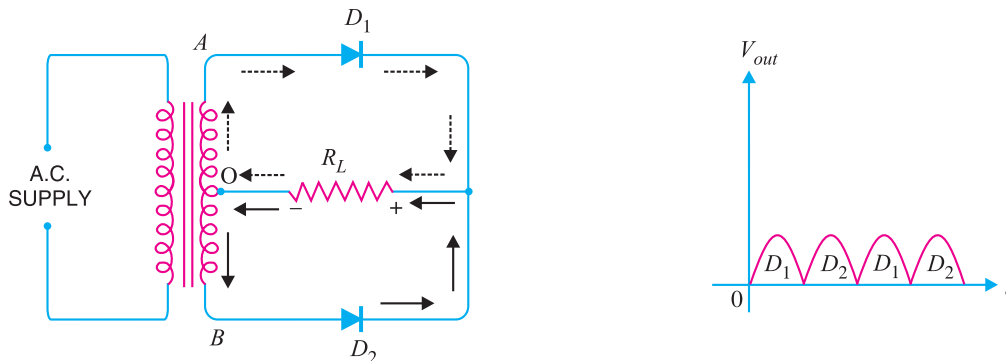

Fig. 6.24
The circuit employs two diodes  $D_1$  and  $D_2$  as shown in Fig. 6.24. A centre tapped secondary winding  $AB$  is used with two diodes connected so that each uses one half-cycle of input a.c. voltage. In other words, diode  $D_1$  utilises the a.c. voltage appearing across the upper half ( $OA$ ) of secondary winding for rectification while diode  $D_2$  uses the lower half winding  $OB$ .
**Operation.** During the positive half-cycle of secondary voltage, the end  $A$  of the secondary winding becomes positive and end  $B$  negative. This makes the diode  $D_1$  forward biased and diode  $D_2$  reverse biased. Therefore, diode  $D_1$  conducts while diode  $D_2$  does not. The conventional current flow is through diode  $D_1$ , load resistor  $R_L$  and the upper half of secondary winding as shown by the dotted arrows. During the negative half-cycle, end  $A$  of the secondary winding becomes negative and end  $B$  positive. Therefore, diode  $D_2$  conducts while diode  $D_1$  does not. The conventional current flow is through diode  $D_2$ , load  $R_L$  and lower half winding as shown by solid arrows. Referring to Fig. 6.24, it may be seen that current in the load  $R_L$  is *in the same direction* for both half-cycles of input a.c. voltage. Therefore, d.c. is obtained across the load  $R_L$ . Also, the polarities of the d.c. output across the load should be noted.